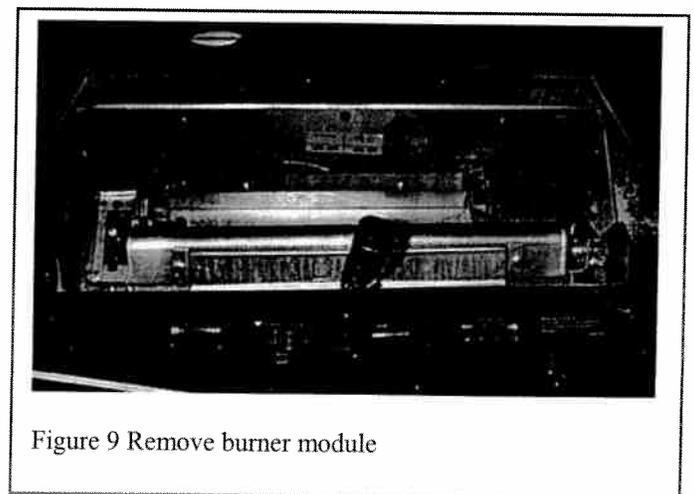

Figure 9 Remove burner module
- Remove the burner module (Ten screws)(fig 9).